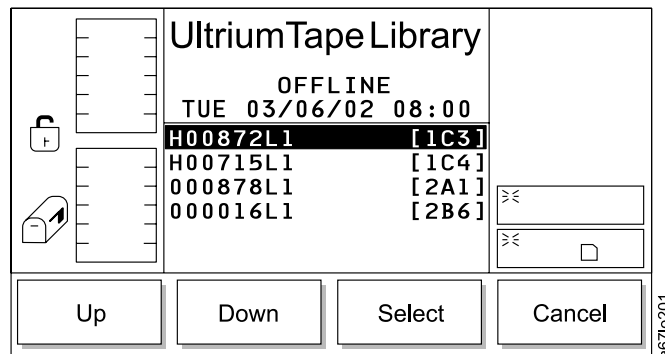

Figure 93. Select Media Dialog
- If **Select** is selected, the Select Media Dialog displays (see Figure 93).